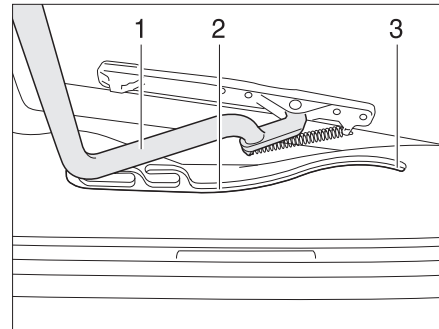

Fig. 47 Heki skylight, guide
- Pull the bar (Fig. 47,1) in the guides (Fig. 47,2) to the rearmost position (Fig. 47,3).
- Use both hands to push the bar (Fig. 47,1) slightly upwards.
- Pull the bar in the guides (Fig. 47,2) to the desired position.